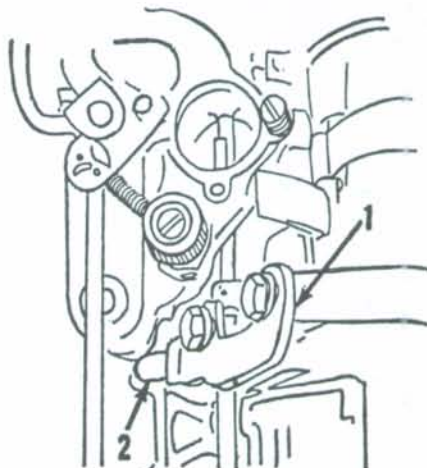

Fig. M7-10—Reverse throttle pickup adjustment used on older models.
Synchronize the reverse throttle mechanism with motor in operation as follows: Loosen the screws which retain the reverse throttle lever (1—Fig. M7-10) to the sector gear and move the lever as far as possible away from throttle reverse pickup (2). Advance the distributor in the "Reverse" direction until engine speed is 1000 rpm. Move the lever (1) until it just touches reverse pickup (2) and tighten the screws. Limit the maximum reverse speed to 4000 rpm or less by moving the lever stop on the lower cowl.